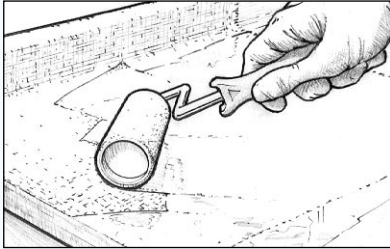

Figure 28 Coat the surface to fill the weave before the wet-out becomes tack free.
9. Coat the surface to fill the weave before the wet-out becomes tack free (Figure 28). Follow the procedures for final coating in the next section. It will take two or three coats to completely fill the weave of the cloth and to allow for a final sanding that will not damage the cloth.